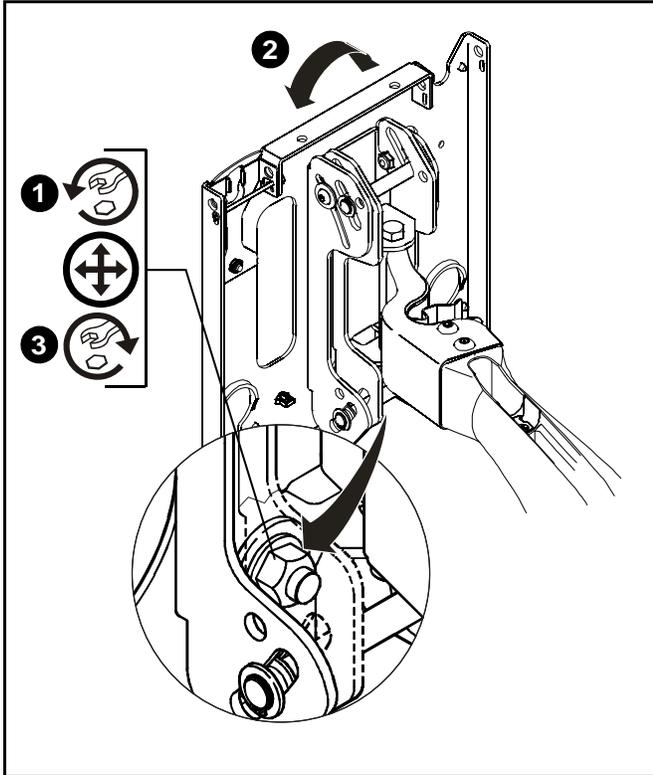

Figure 9
1. Loosen the roll tensions adjustment nut located on the back side of the faceplate assembly. (See Figure 9)
3. Tighten roll tension adjustment nut. (See Figure 9)